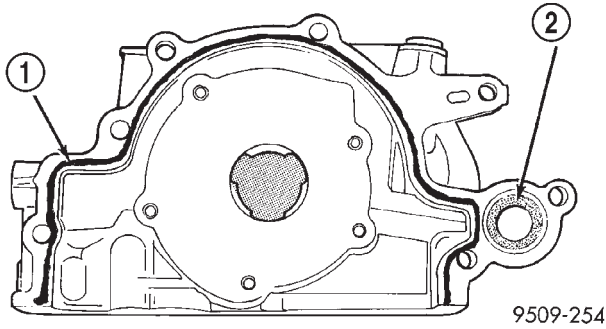

Fig. 105 Oil Pump Sealing
- (1) Make sure all surfaces are clean and free of oil and dirt.
- (2) Apply Mopar® Gasket Maker to oil pump as shown in (Fig. 105). Install oil ring into oil pump body discharge passage.
- (3) Prime oil pump before installation.
- (4) Align oil pump rotor flats with flats on crankshaft as you install the oil pump to the block.